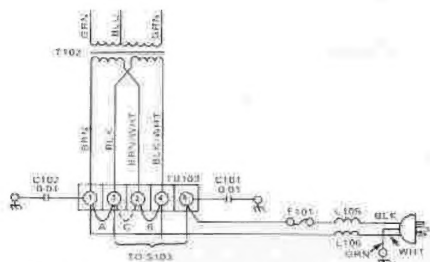

Figure 2. Converting to 240V, 50/60 Hz Power
2. Locate terminal board TB103 on the rear panel of the chassis, behind transformer T102 (see Figure 2).
3. Remove strap 'A' connecting terminals 1 and 2, and remove strap 'B' connecting terminals 3 and 4; then solder strap 'C' to terminals 2 and 3 as indicated in Figure 2.